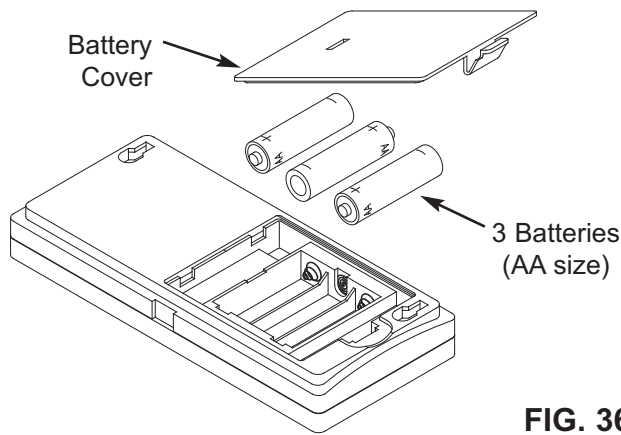

FIG. 36
2. Install three (3) AA size batteries, making sure that they are oriented to match the + and - markings inside the battery compartment (See Figure 36).